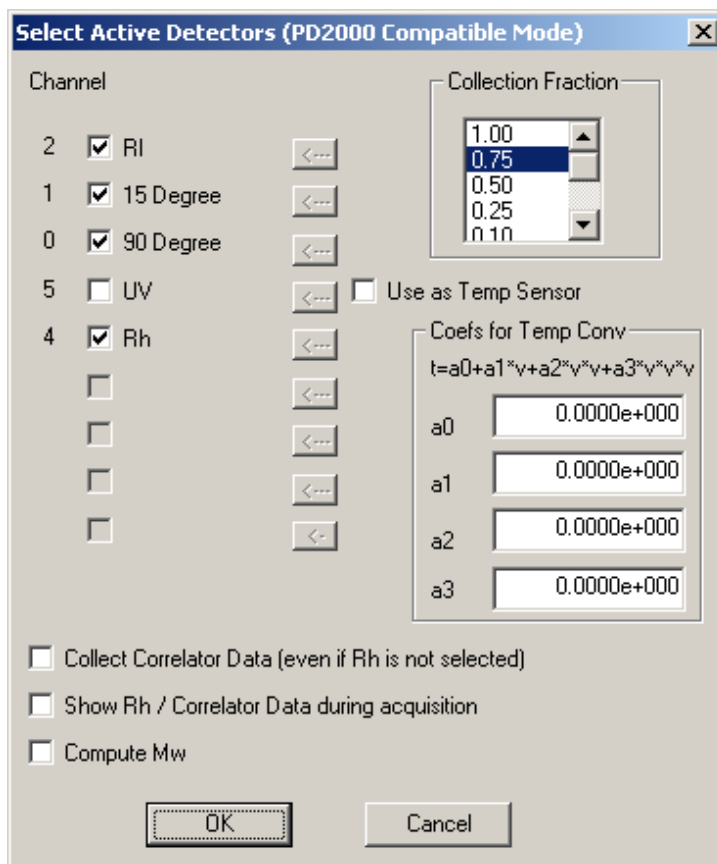

Figure 2-3: The Setup Active Detectors Dialog Box
The *Select Active Detectors* dialog box (Figure 2-3), which is accessed by selecting **Detectors** on the **Setup** menu, is used to indicate the detectors that are connected to the system and to select a variety of operating parameters.
- a) Check the detectors that were selected on the *Select Active Detectors* dialog box (Figure 2-3).